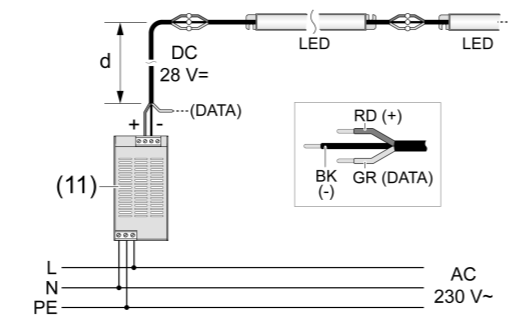

Figure 6: Circuit diagram
- i** Connect the LED luminaires according to the circuit diagram (Figure 6).